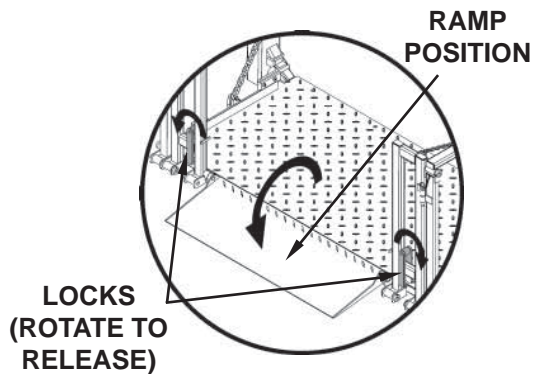

FIG. 18-3
2. Rotate locks (**FIG. 18-3**) to release retention ramp. Unfold ramp to the ground.